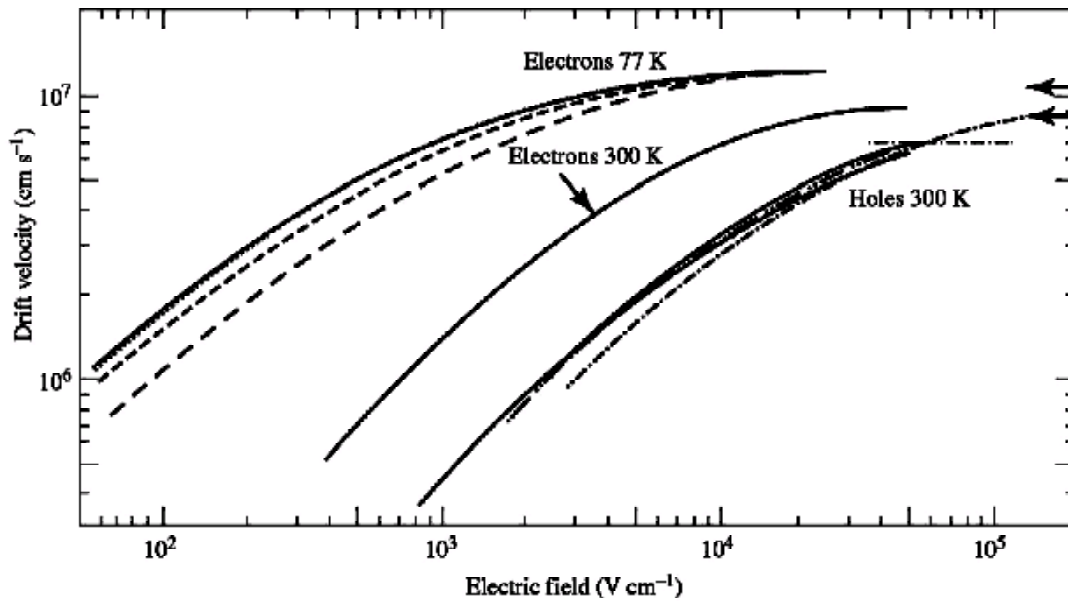

Figure 5:  $v_d$  versus  $E$  for Si. Published by Jacoboni, Canali, Ottaviani and Quaranta, *Solid-State Electronics* 20, 77 (Feb. 1977).
- On figure 5 we see that the mobility is constant only at low electric fields.
- At high electric fields the *hot electrons* interact with the lattice through an additional scattering process and mobility decreases. See figure 5.
- The following expression that approximates the data shown in figure 5 was provided by the authors of the publication.